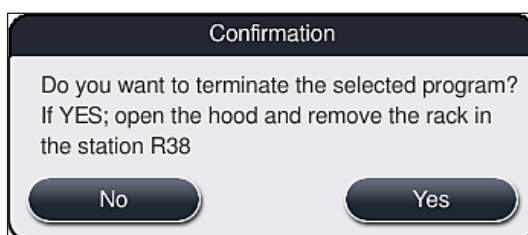

Fig. 89
5. In the following information message (→ "Fig. 89"), confirm the program termination with the **Yes** button or return to the process status display with **No**.
The information in the message (→ "Fig. 89") absolutely must be adhered to.